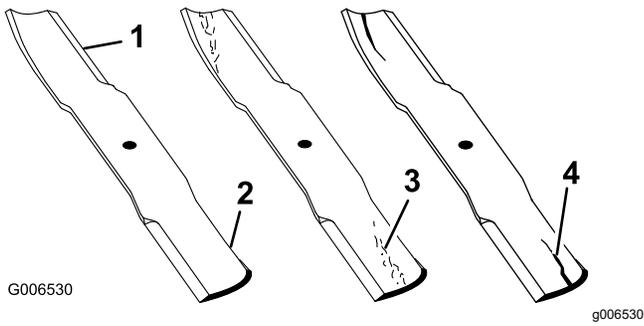

Figure 30
1. Inspect the cutting edges (Figure 30).
4. If you notice any cracks, wear, or a slot forming in this area, immediately install a new blade (Figure 30).